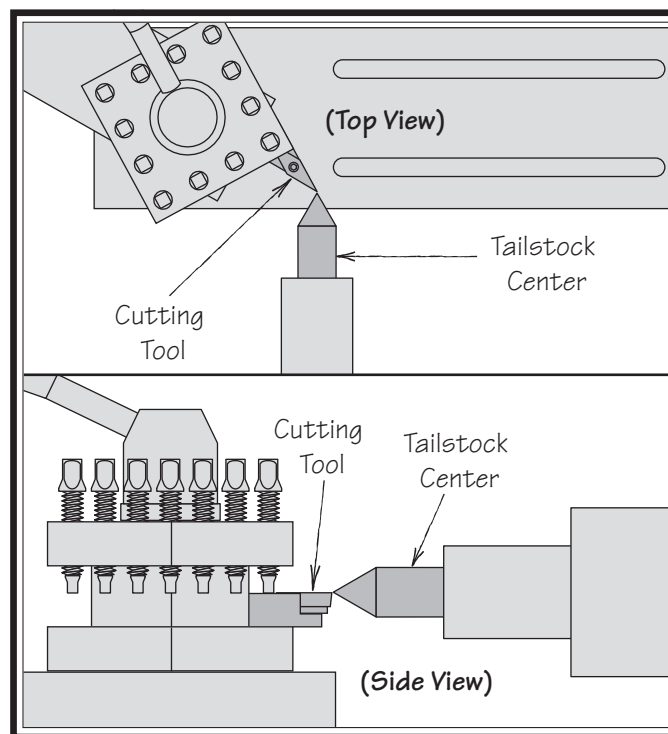

Figure 61. Cutting tool tip aligned with tailstock center.
4. Adjust the height of the cutting tool so that the tool tip is aligned vertically and horizontally with the center tip, as shown in **Figure 61**.